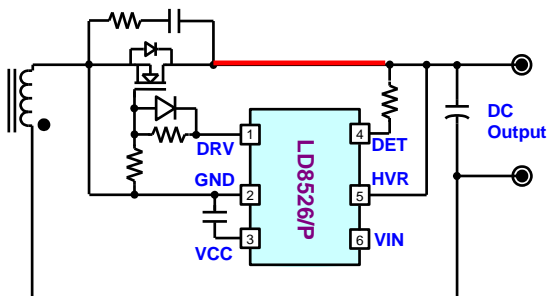

Fig. 19
5. To let MOS be turned OFF in time, keep 5nH~20nH inductance of PCB trace as shown in Fig.19 & Fig. 20 in red lines. The suggested trace configurations are listed below: